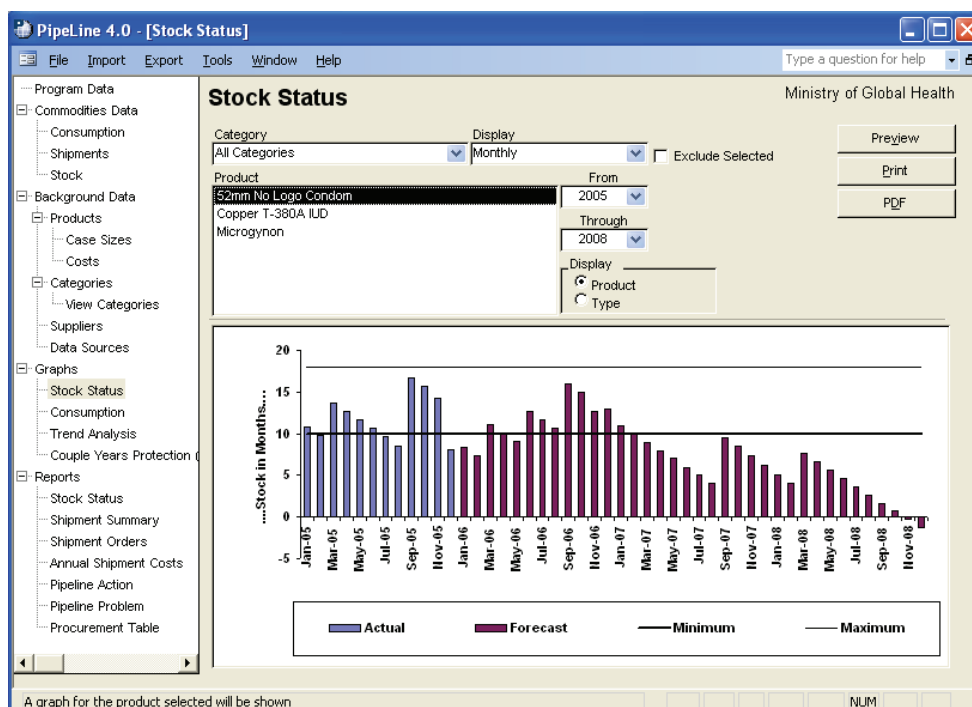

Figure 6-1—Stock Status screen
1. Click on the Stock Status Tree View option (under Graphs) to display the Stock Status screen (see Figure 6-1).